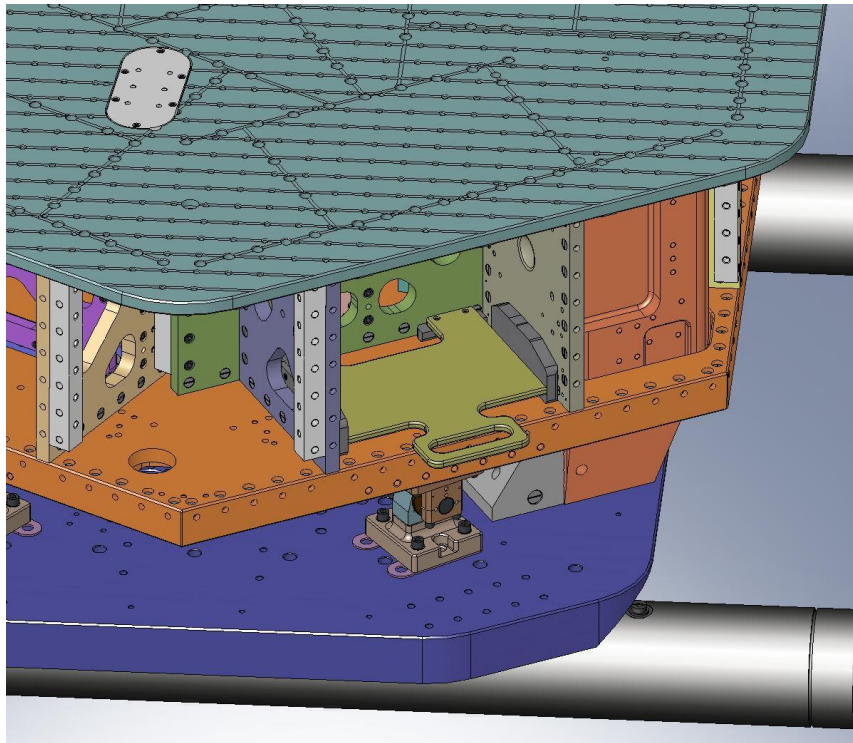

Figure 3.119. A special tray (D071496) is used to hold the Horizontal GS-13 in place during installation.
- Slide the **GS-13 Horizontal Install Tool** (D071496) into **Stage 1**, between the **Radial Ribs** (D071055) of one of the **Pitchforks** (see Figure 3.119).